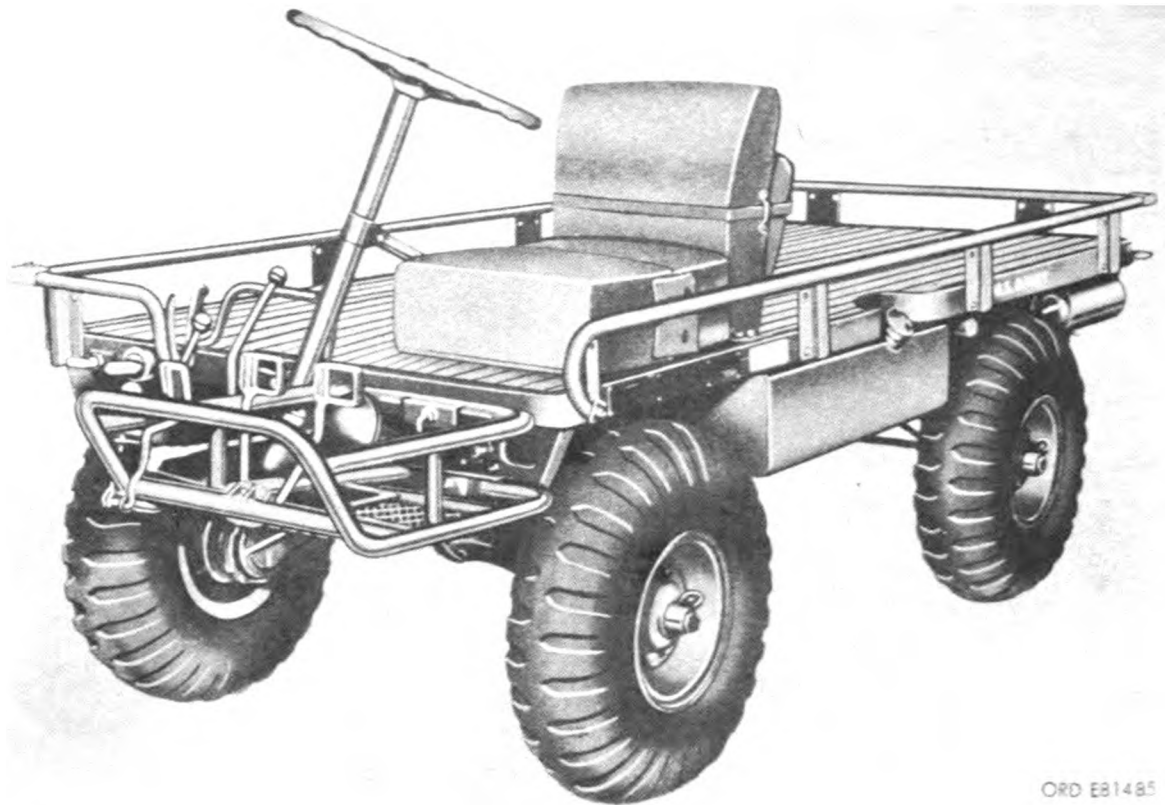

Figure 1-1. 1/2 ton, 4 x 4, platform utility truck—left front view.
a. The ½ ton, 4 x 4, Platform Utility Truck M274A2, figs. 1-1, 1-2, 1-3, 1-4), M274A3 (figs. 1-1, 1-2, 1-3, 1-5), M274A4 (figs. 1-1, 1-2, 1-3, 1-4), M274A5 (figs. 1-1, 1-2, 1-3, 1-6) are designed as infantry ammunition light cargo, personnel, and weapons carriers. These vehicles will operate over all types of roads, cross-country terrain, and in all types of weather. All vehicles will ford up to 18 inches of water.
c. Identification. The M274A2 (figs. 1-1, 1-2, 1-3, 1-4), the M274A3 (figs. 1-1, 1-2, 1-3, and 1-5), the M274A4 (figs. 1-1, 1-2, 1-3 and 1-4), and the M274A5 (figs. 1-1, 1-2, 1-3 and 1-6) differ in the following areas.
(1) Transmission and transfer gearshift levers are protected by a guard secured to platform which prevents cargo from bumping the shift levers during sudden stops. The M274A3 is